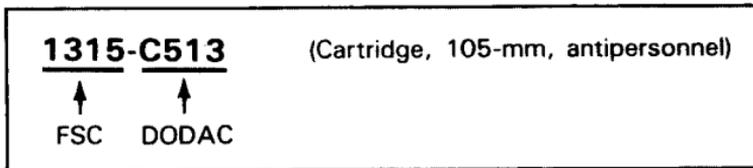

Figure D-4. Example of a DODAC.
**Department of Defense Ammunition Code (DODAC).** This code includes the FSC of the ammunition, and the DODIC. The code is used on all using-unit DD Forms 581 (Request for Issue and Turn-In), DA Form 3151-R (Ammunition Stores Slip), and most ammunition reports. It is used instead of the DODIC to reduce errors with ammunition transactions. See Figure D-4.